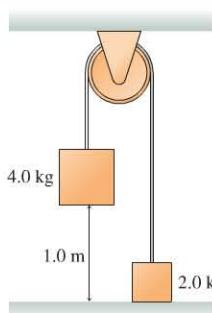

FIGURE P7.63
63. **III** The two blocks in Figure P7.63 are connected by a massless rope that passes over a pulley. The pulley is 12 cm in diameter and has a mass of 2.0 kg. As the pulley turns, friction at the axle exerts a torque of magnitude 0.50 N·m. If the blocks are released from rest, how long does it take the 4.0 kg block to reach the floor?